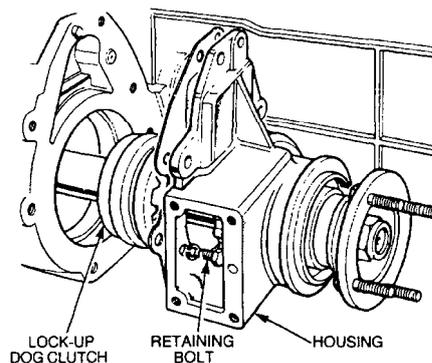

Figure 185 Removing the Front Output Shaft and Housing
- o. Remove the bolts and lock-washers securing the front output shaft housing to the transfer casing and withdraw the housing and output shaft (Figure 185). Discard the lock-washers.